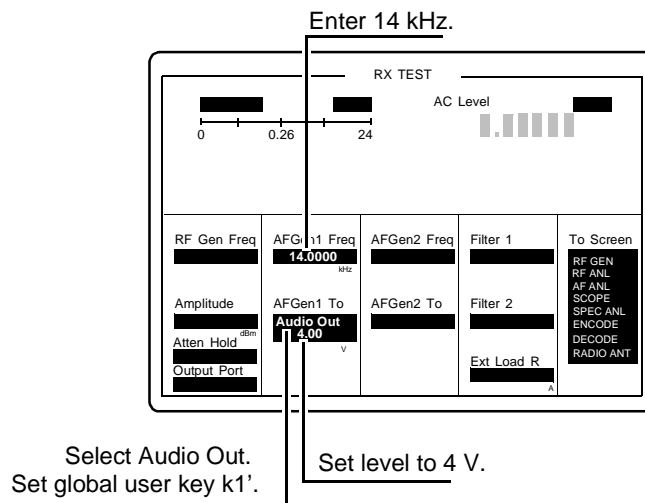

Figure 50 **Setting up the RX TEST Screen**
Step 1. Setup the RX TEST screen (see figure 50).